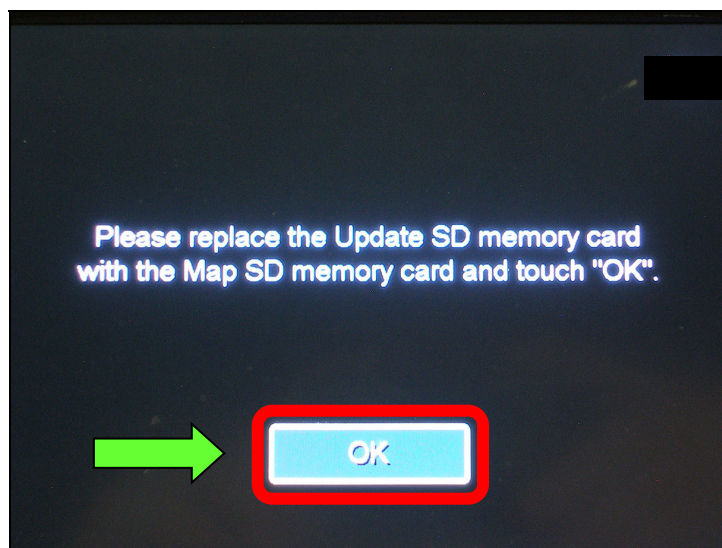

Figure 16
16. Shortly before the updating process is complete, the message in Figure 16 will appear.